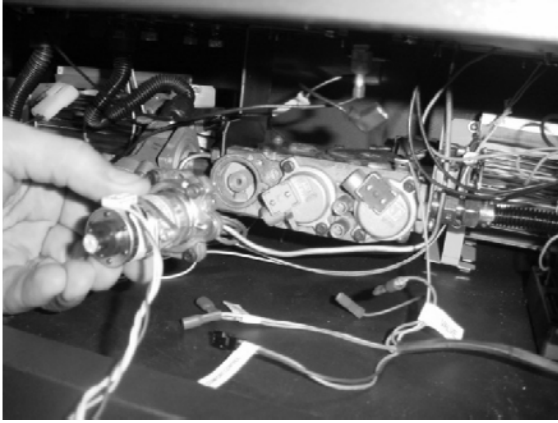

Figure 1
- (b) Remove and discard the Natural Gas (NG) orifice. Place the LP orifice in the pilot assembly then replace the pilot hood, tightening the pilot hood until it is snug (do not over-tighten).
7. The stepper motor (adjustable regulator) has an installation sheet included with it – make sure to follow all of the directions. Place the stepper motor on the gas control valve (see Figure 1) – **MAKE SURE IT IS CORRECTLY ORIENTED.** Secure using the screws included with the motor (see Figure 2) – tighten to 25 Lb-inches. Leak test this area after installation to verify proper installation.